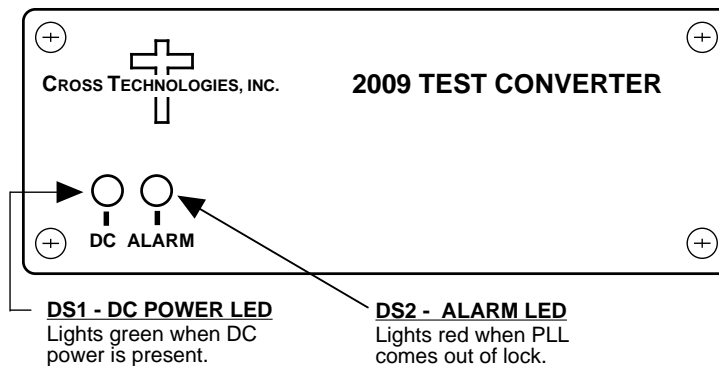

FIGURE 2.2 Model 2009-2425-1750 Front Panel Indicators
Figure 2.2 shows front panel indicators.
4. Be sure DS1 (green, DC Power) is on and DS2 (red, Alarm) is off (Figure 2.2).